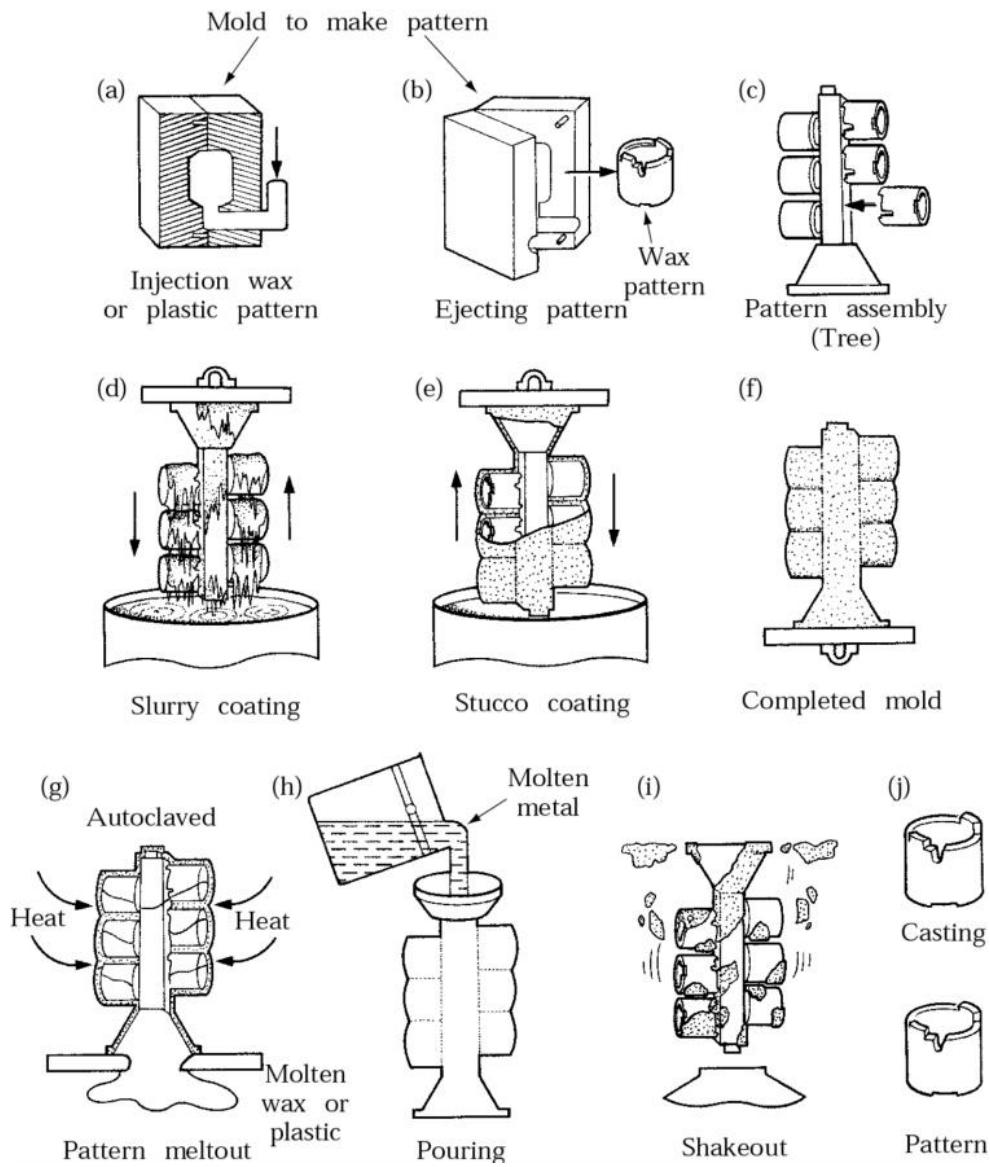

Fig. 3 Schematic illustration of investment casting, (lost wax process).
D. Write a short description about the casting processes illustrated in Figs. 3 and 4.